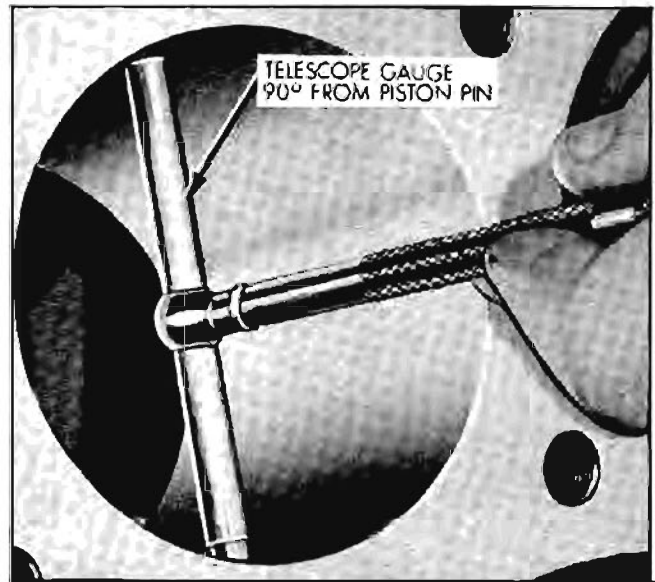

Fig. 6-116 Measuring Cylinder Bore
Inspect cylinder walls for scoring, roughness, or ridges which indicate excessive wear. Check cylinder bores for taper and out-of-round with an accurate cylinder gauge at top middle and bottom of bore, both parallel and at right angles to the center line of the engine. The diameter of the cylinder bores at any point may be measured with an inside micrometer (Fig. 6-116, 6-117) or by setting the cylinder gauge dial at "0" and measuring across the gauge contact points with outside micrometer while the gauge is at same "0" setting.
1. Expand a telescope gauge to fit the cylinder bore at right angles to the piston pin and between $1\frac{1}{2}$ " and 2" from the top. See Fig. 6-116.